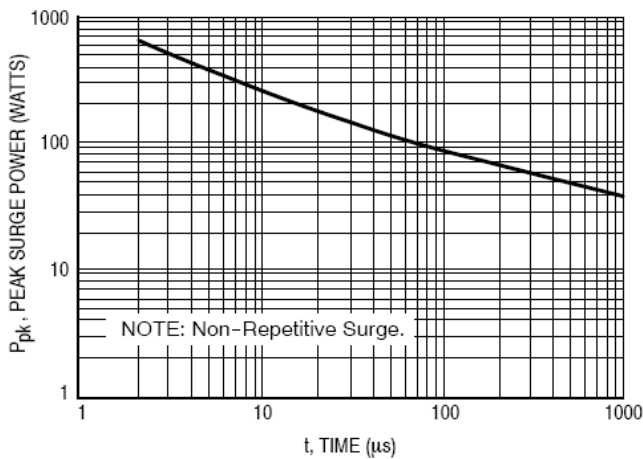
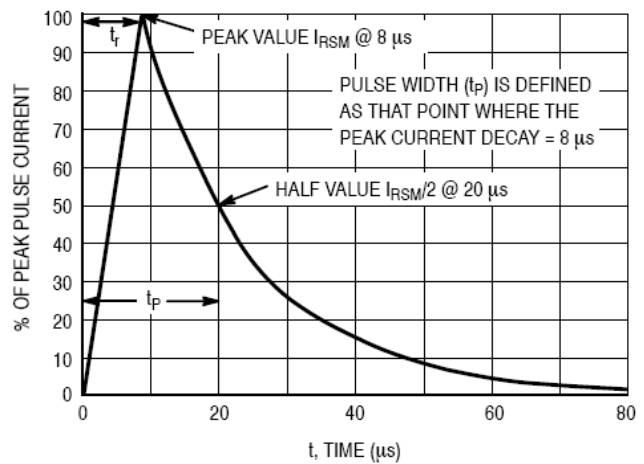

Figure 1. Pulse Width
Figure 2.  $8 \times 20\ \mu\text{s}$  Pulse Waveform
1. Non-repetitive current per Figure 1. Derate per Figure 2.